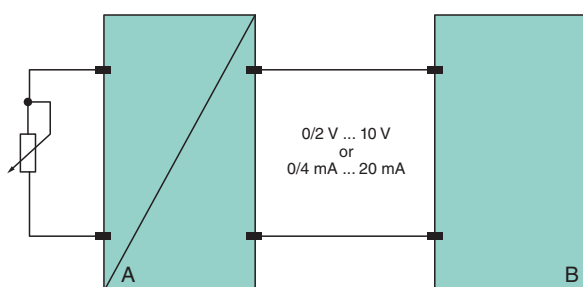

Figure 26 Conversion of sensor signals into standard signals
Measurement value signals are converted into standard signals in so-called signal converters. Figure 26 shows a signal converter (A) which converts a resistance signal into a standard signal for further processing in control (B). If the sensor and signal converter form a single unit, they are referred to as a transmitter.